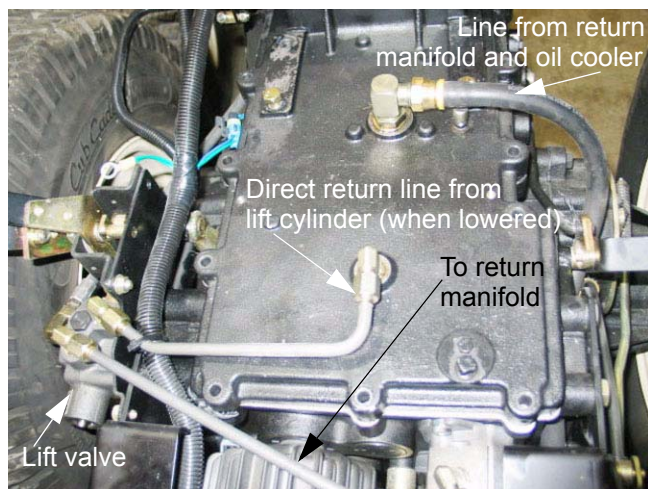

Figure 1.21
- 1.21. Fluid not required to lift the cylinder will be directed back to the transmission through the return manifold, via the cooler. See Figure 1.21.